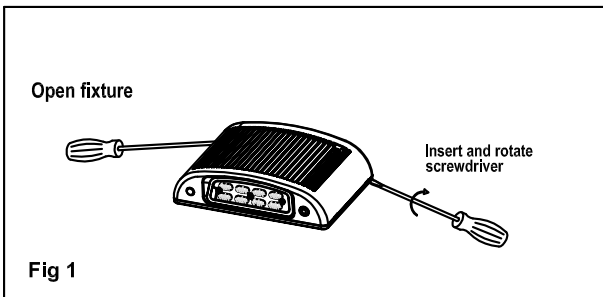

Fig 1
1. Use flat blade screwdriver in slots on each side of unit to pry front assy. from back-plate.(see Fig. 1)